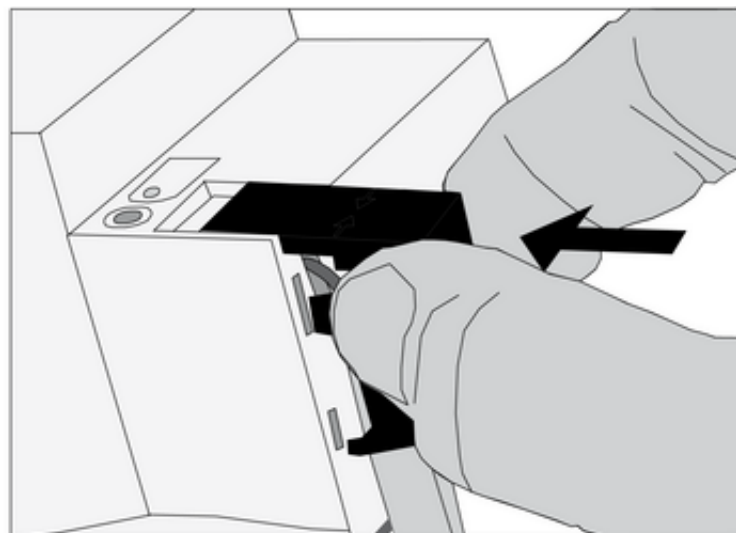

Figure 9: Installing the cover
- Install cover on top of the bus terminal so that it snaps into place (Figure 9).